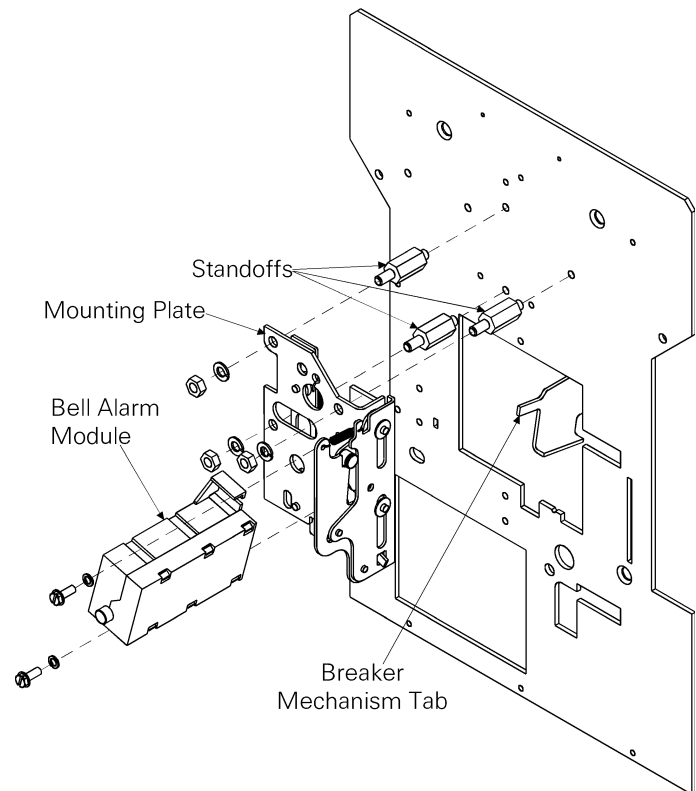
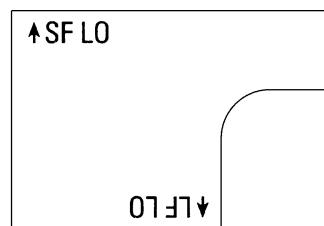

Figure 45. Bell Alarm with Lockout installation or removal.
Figure 47. Orientation of the label on the Bell Alarm module for installation.
Use the following procedure to remove the Bell Alarm with Lockout module and mounting plate, as illustrated in Figure 45. If only the Bell Alarm module is to be replaced, it is not necessary to remove the mounting plate (perform steps 1–3 only).
2. Line up the Bell Alarm module on the mounting plate, as shown in Figure 45, so that the solenoid plunger and locating pin fit in the appropriate holes. The label on the end of the module should appear as in Figure 47, with the legend ↑ SF LO (Small Frame Lockout) horizontal.